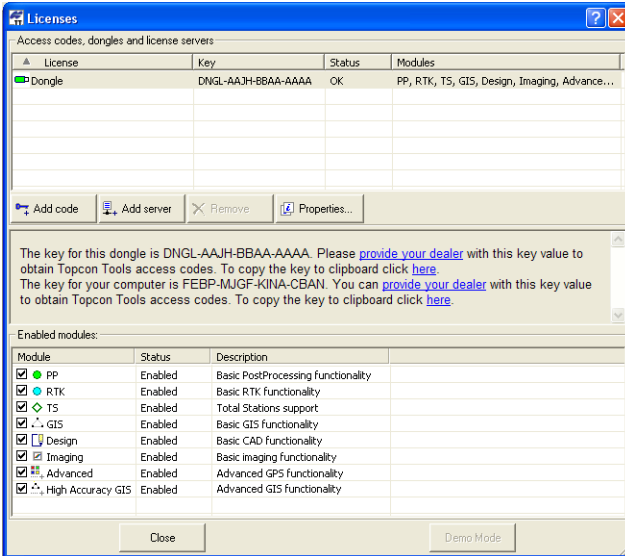

Figure 1-10. Insert USB Hardware Dongle
- insert the hardware lock into the computer's USB port (Figure 1-10) and start Topcon Tools.